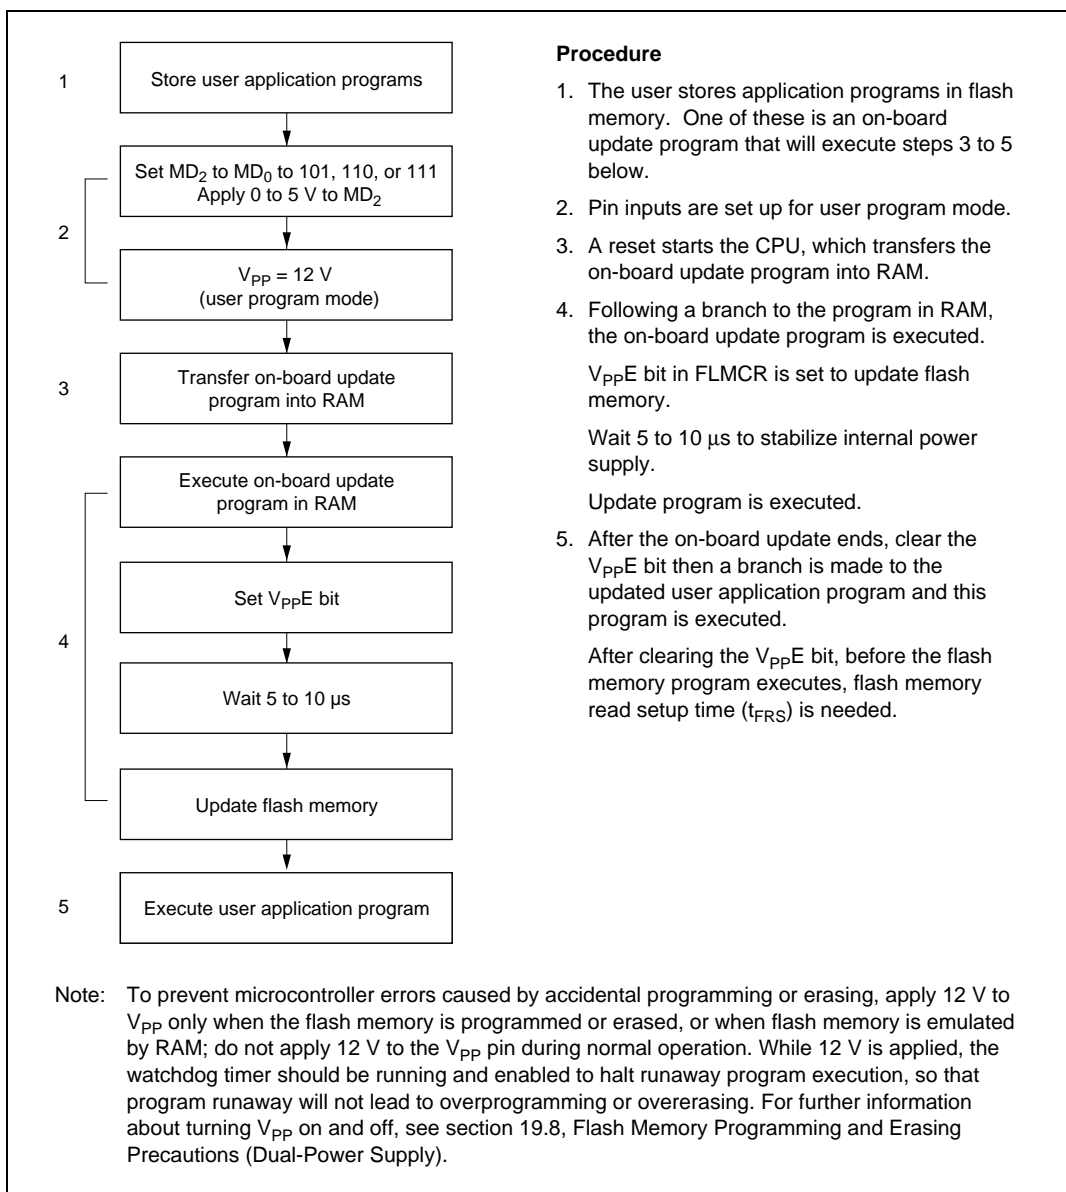

Figure 19.7 User Program Mode Operation (Example)
6. Transition to boot mode are shown in figure 19.7, User Program Mode Operation (Example). This is possible after applying 12 V to pins MD₂ and V_{PP} and restarting. In this case, H8/3048F reset is erased (startup with Low → High) timing^{*1}, mode pin status latches the personal computer internally to maintain boot mode. Boot mode can be erased if the 12 V applied to the MD₂ pin and the V_{PP} pin is erased, then reset is erased^{*1}. However, please note the following.
User Program Mode Execution Procedure: Figure 19.7 shows the procedure for user program mode execution in RAM.